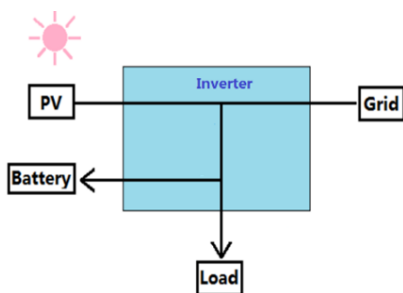

Figure1-7
1. PV and grid supply power to load and charge batteries together. ( Figure1-7)